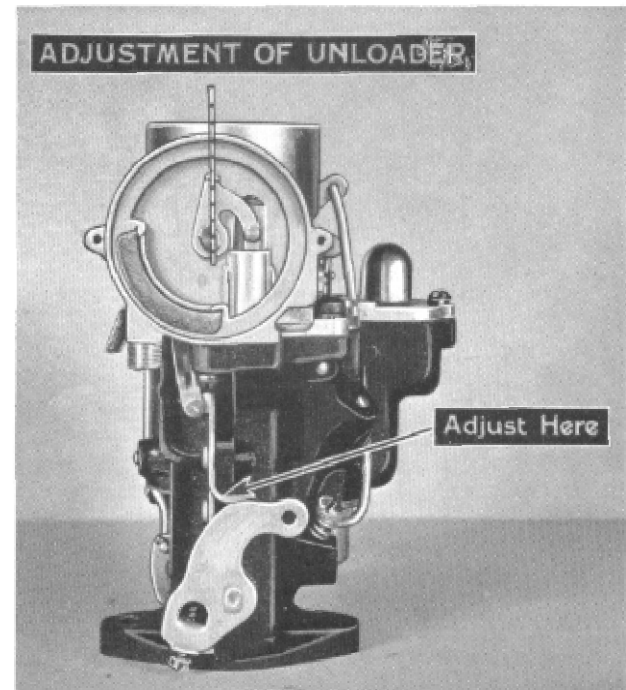

Figure 14
29. Adjust curved lip on fast idle block to open choker valve to position described in operation No. 28 at wide open throttle. (Fig. 14).